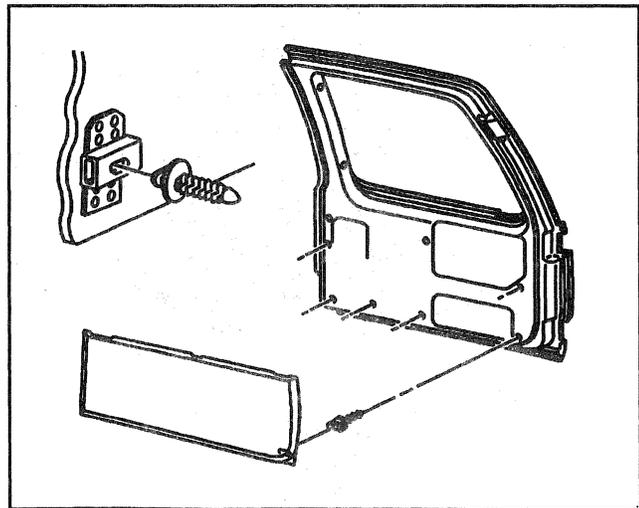

Figure 87—Rear Side Door Lock Actuator Wiring Connector and rivets
**Remove or Disconnect (Figures 87 and 88)**
- Actuator lock control rod (Figure 87).
Install or Connect (Figures 87 and 88)
2. Actuator lock control rod (Figure 87).